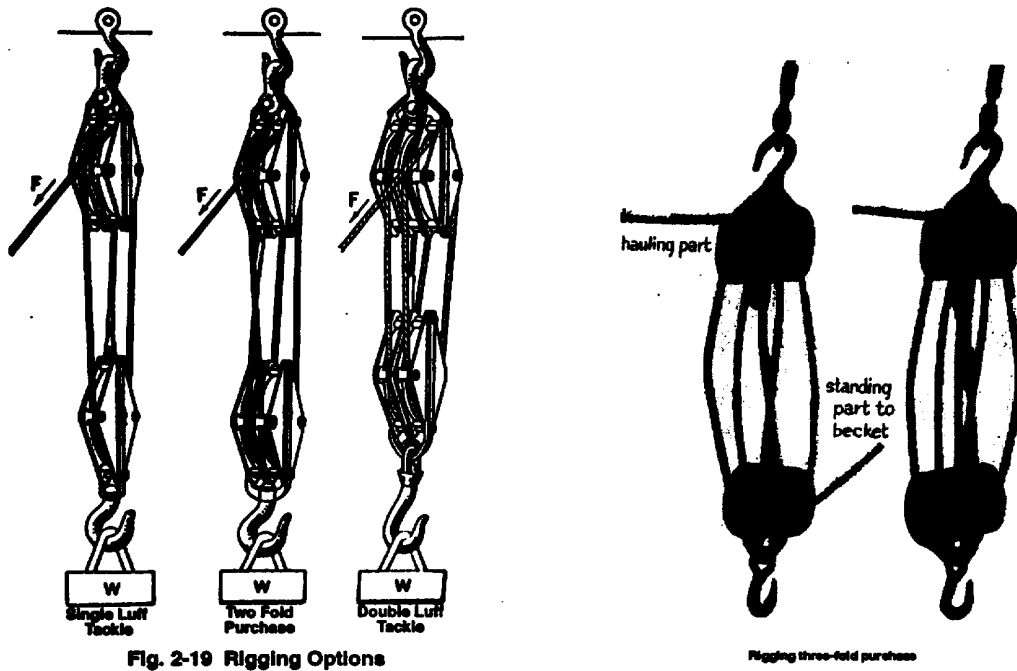

Fig. 2-19 Rigging Options
- 2 Tackles: Some of the common tackles used aboard ships are (See **Figure 2-19**):